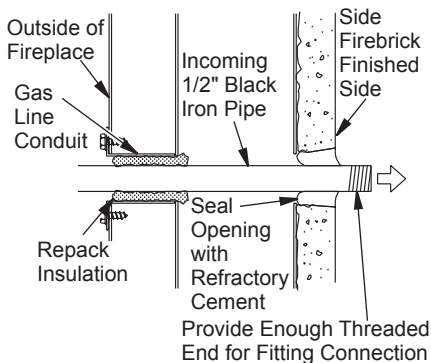

Figure 20 - Gas Line Installation
3. Run a 1/2" black iron pipe line into the fireplace through the rear at gas line conduit sleeve (if using a raised platform, add height). Provide sufficient gas line into fireplace chamber for fitting connection (see Figure 20, page 13). *Note: Secure incoming gas line to wood framing to provide rigidity for threaded end.*